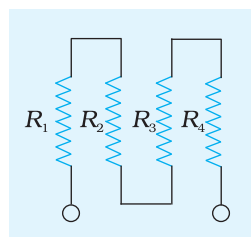

Fig. E 1.4
7. Four resistances R_1 , R_2 , R_3 and R_4 are connected together as shown in Fig. E 1.4. Complete the electric circuit by connecting the combination of resistances to a 6 V source, an ammeter and a voltmeter. Explain, how would you measure current/voltage flowing through each one of the resistors.